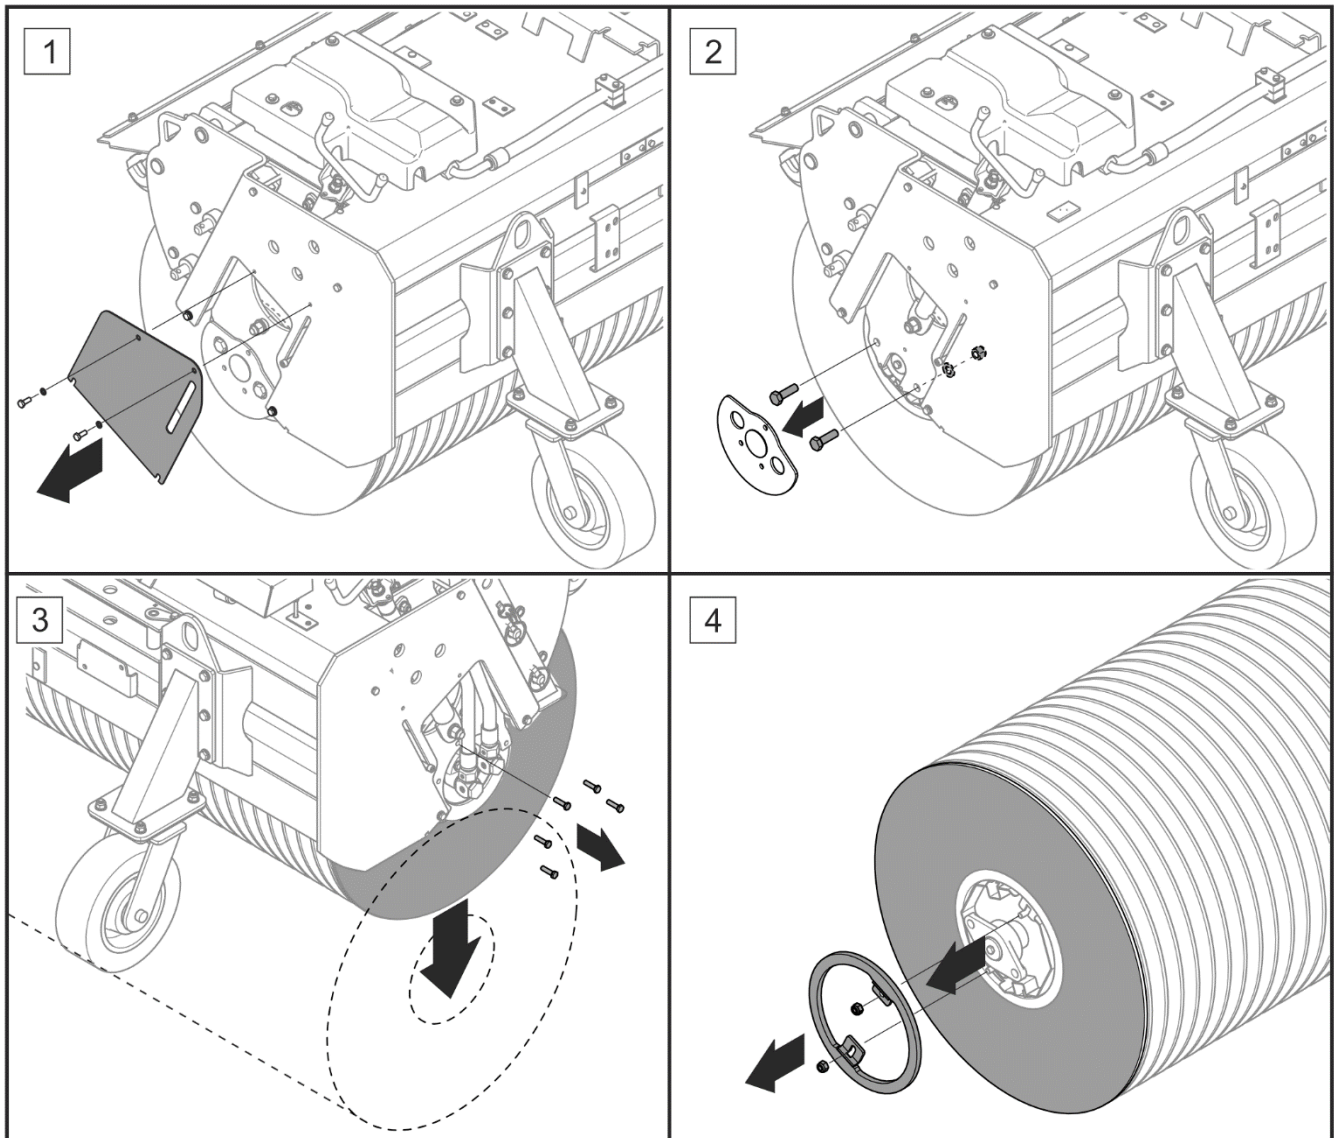

FIGURE 5.7 Replacing the roller brush
The roller brush may drop down after unscrewing the bearing assembly (2) on the left side of the machine and the bolts (3) fixing the shaft with the rising mechanism (FIGURE 5.7) .
In order to replace the roller brush (FIGURE 5.7), proceed as follows: